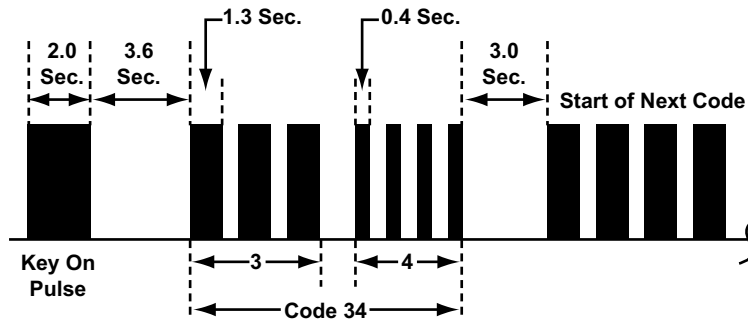

Figure 4-23 Acura ABS Code Type 04
- Type 04, see Figure 4-23 and Table 4-9 on page 26